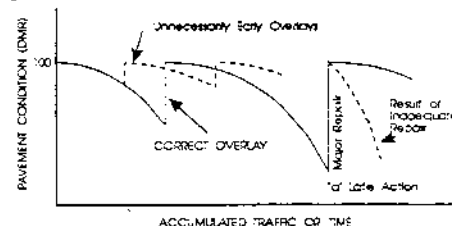

Figure 1
A performance curve plotting the pavement condition against traffic or time is useful to visualize and track what is happening to a pavement and is helpful in managing pavements. The Virginia DOT uses a distress maintenance rating (DMR) to gauge the pavement condition. A DMR of 100 represents a pavement in A-1 condition. The DMR is determined from a weighted combination of various distresses such as cracking, rutting, pushing, ravelling, and patching. As illustrated in Figure 1, the condition
**What if the repair is performed too late?** If the condition of the pavement is allowed to decline to point "a" on Figure 1, the restoration process may be very expensive. For instance, a simple overlay may not restore the pavement to its original structural condition; therefore, the pavement may have to be reconstructed down to the base material—a very costly procedure. This type of situation occurs most often during times of budget cuts when repair is delayed.
**What if the repair is performed too early?** It is easy to see from Figure 1 that premature repair results in more frequent cycles and unnecessary added cost. This situation is not found very often in pavement systems. Virginia uses a minimum threshold DMR value of 83 for interstate and 78 for primary highways to indicate when a pavement needs to be serviced.
**What if repair is inadequate?** If the type of repair is insufficient to correct specific pavement problems, the future decline rate of the pavement will be higher than normal, as illustrated in Figure 1. An example would be where a simple overlay is applied over a pavement with severe alligator cracking or a wet soft base. The required future repair will be much sooner than expected, and it is possible that the service life may be very short.